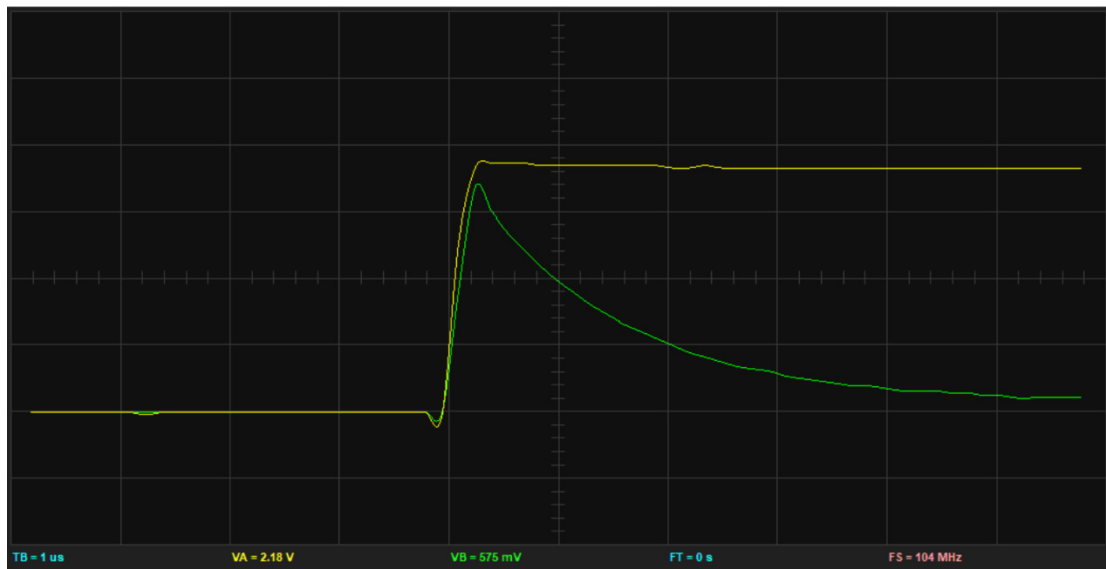

Figure 4: A good sample of the rising edge of the square wave and inductor's voltage $v_{PL}(t)$.
- Turn on Channel B in the "Channel Controls (7)" panel (see Appendix for the positions of the control panels). Change the voltage offset type of both CHA and CHB to "REF" (refer to Activity #1 Step 9 if you have forgotten how to do this). Lower the 0 V line of both channels by 2 V so that the top part of the waveforms do not get clipped off later. You can leave the **voltage per division** unchanged as **1 V/Div** for both channels.
- In the "Trigger Controls (4)" panel, left-click on the trigger voltage level, and drag your mouse slightly to change its value to around **100 mV**. This sets the voltage level at which your BitScope will be triggered to capture the waveform.
- In the "Timebase Control (6)" panel, set the timescale to **1 us/Div**. Turn off "REPEAT" as we will perform a single waveform capture. Next, right-click on "POST" and select 25%. This causes BitScope to buffer 25% more data in the moments before the trigger activates.
10. You are now ready to capture the rising edge of the square waveform (CHA), and the corresponding inductor's voltage $v_{PL}(t)$ (CHB). Left-click once on "TRACE" button inside the "Timebase Control (6)" panel. More than frequent, the rising edge of the square waveform may have a small spike before it stabilizes at the steady voltage level. When this happens, it does not closely match the turning on of a DC voltage source. Instead, we would like to try repeating the waveform capture until we get a good sample that does not have an obvious spike. This can be accomplished by clicking the "TRACE" button repeatedly until you are satisfied with the captured waveform (each click captures one sample). Figure 4 below shows an acceptable waveform.